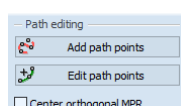

Figure 303 – Path defining tools
The CPR path is represented by a Bezier curve interpolating defined 3D points (key points). The number of key points is unlimited. Any changes performed to the CPR path are immediately reflected by CPR view. TomoCon provides two different modes for defining the CPR path key points (see Figure 303):
When adding a new or editing existing key point, it may be useful to move all orthogonal MPR planes to that key point to make following adjustments easier. To do so, check **Center orthogonal MPR** check box (see Figure 303).
1. Click  **Add path points** button (see Figure 303). The path is displayed in red.
1. Click  **Edit path points** button (see Figure 303). Path is displayed in green.
1. Click  **Edit path points** button (Figure 303). Path is displayed in green.